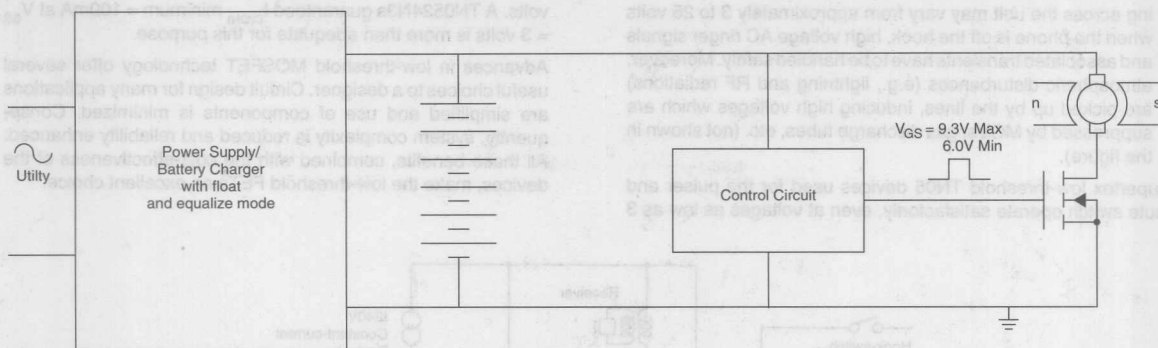

Figure 4: Motor of a Fluid Injection Pump
- Medical equipment with battery backup is another popular application. Figure 4 shows the motor of a fluid injection pump powered by the utility supply and backed by a NiCad battery. The  $V_{GS} = 6$  volts condition demands careful attention, because the  $R_{DS(ON)}$  has to be low in order to ensure a low drain to source voltage drop. A large voltage drop can A) affect motor performance, and B) cause high  $I^2R$  losses, reducing system efficiency and battery back-up time.